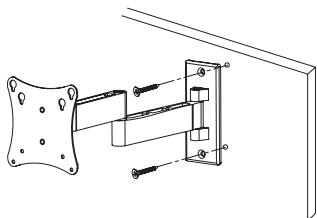

fig. 2.1
The wall arm assembly (A) must be screwed into a stud in order to safely hold mount and monitor. Using a stud finder, find location of stud in wall. An "edge to edge" stud finder is recommended for this. Using wall arm assembly (A), mark on wall screw holes. Screw holes should be in the centre of the stud. A level will ensure the holes for the mount are vertically straight. Drill two 5/32"(4mm) diameter holes 65mm (2.5") deep. Attach wall arm assembly (A) to wall using two #14 x 2.5" flat head wood screws (I) as shown in fig 2.1.